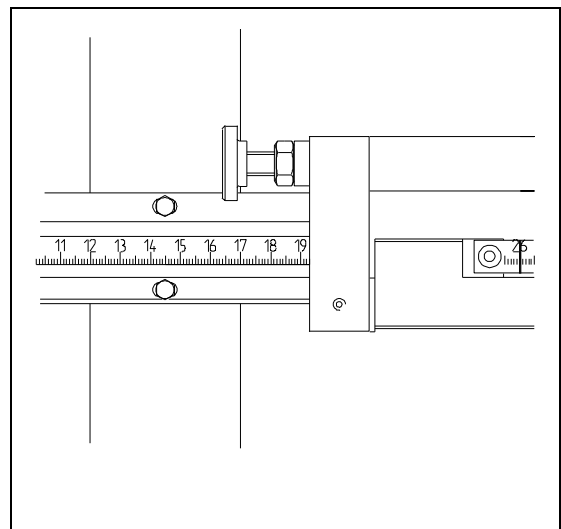

Figure 26
- 10 Remove the metal back panel above the profile and loosen the 6 screws a little. (Figure 26).